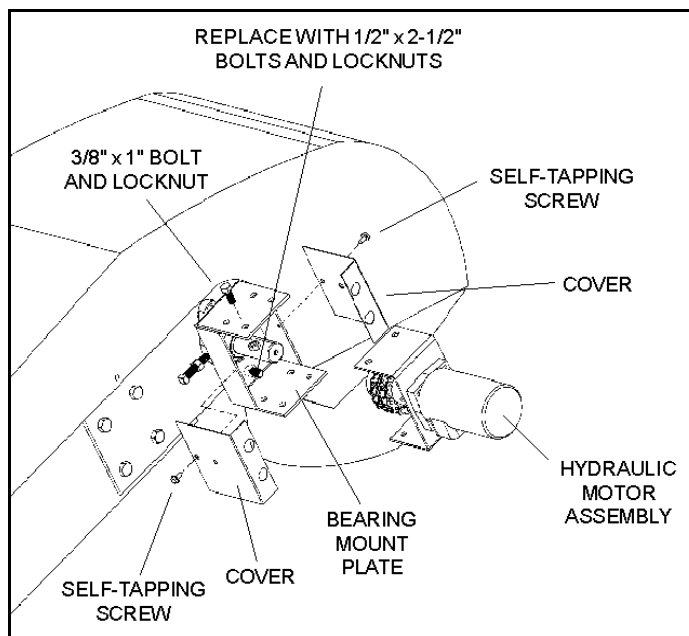

Figure 3.15
2. Secure mount plate to bearing using 1/2" locknuts.(Figure 3.15)
5. Install drive guards onto unit using self-tapping screws as shown in Figure 3.15.